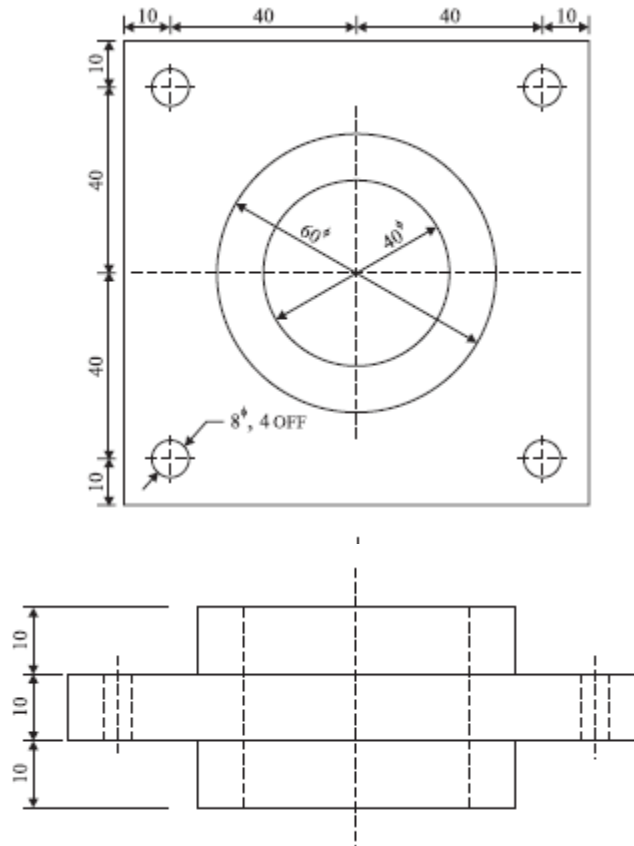

Fig. 5.26
5 Estimate the machining time to drill four 8 mm dia holes and one 40 mm dia central hole in the flange shown in Fig. 5.26. BT2 (16)